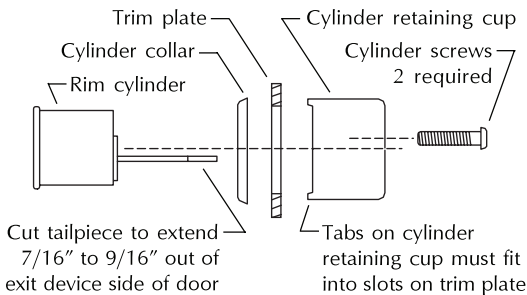

Figure 1
- 3. For NL trim, install cylinder (Figure 1), and install tailpiece guide in exit device cam (Figure 2).